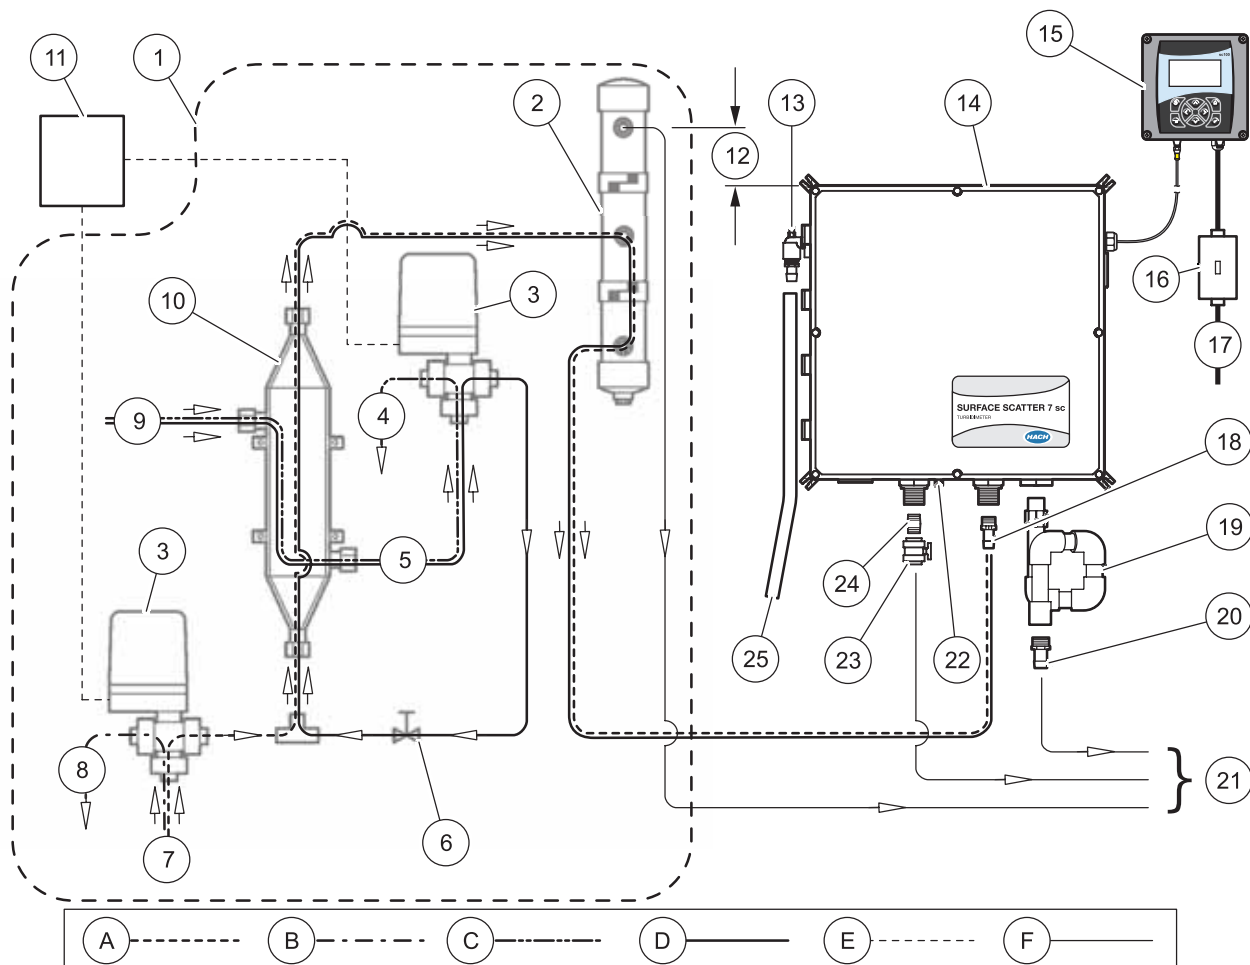
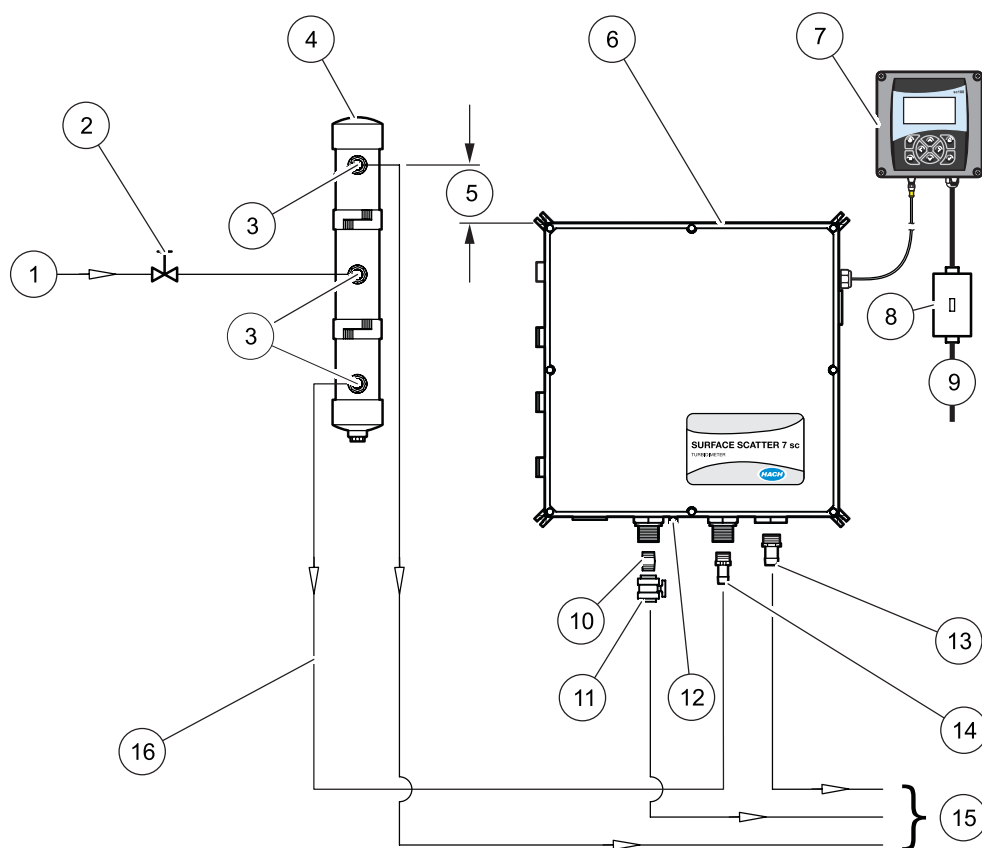

Figure 11 SS7 sc-HST plumbing diagram
Figure 12 SS7 sc plumbing diagram
- See Figure 11 on page 20 for heat exchanger connections.
Install the Bubble Trap/Head Regulator so the overflow is at least five inches above the top of the sample unit enclosure (Figure 11 on page 20). However, installation height can vary based on local sample conditions and flow requirements. See the installation instructions supplied with the Bubble Trap/Head Regulator for more information.
Air purge helps control condensation and corrosive vapors within the sample unit and is recommended. Use dry instrument air only. See Figure 11 and Figure 12 for installation details.